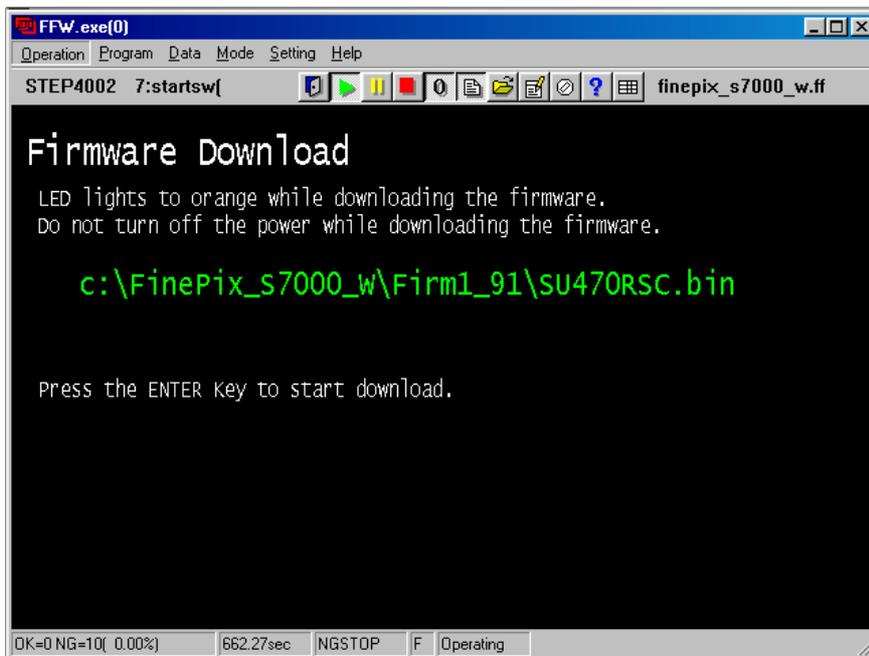

Fig.38
---> The [Download start Screen (Fig.38)] appears.
Follow the instructions on the [Download start Screen (Fig.38)], and press the Enter key.